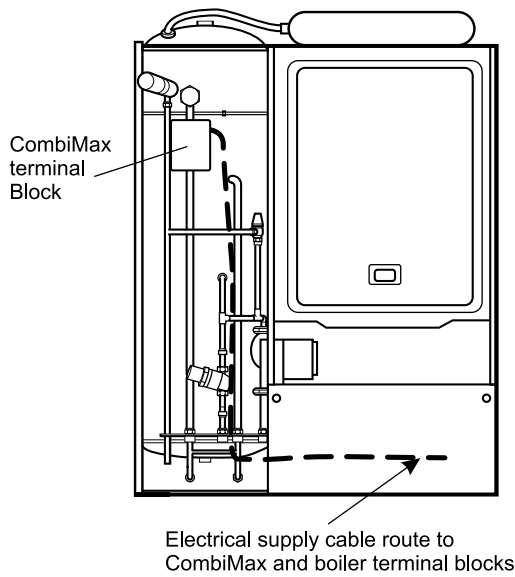

Fig. 10
1. Remove the screws securing the CombiMax terminal block cover. Pass the electrical mains supply cable through the cable clamp on the boiler and route the cable to the CombiMax terminal block as shown in Fig. 10. Connect the cable as follows:- Brown to L, Blue to N and Green/Yellow to  $\perp$ . Ensure correct polarity and that the cable is secured using the clamping bush supplied.